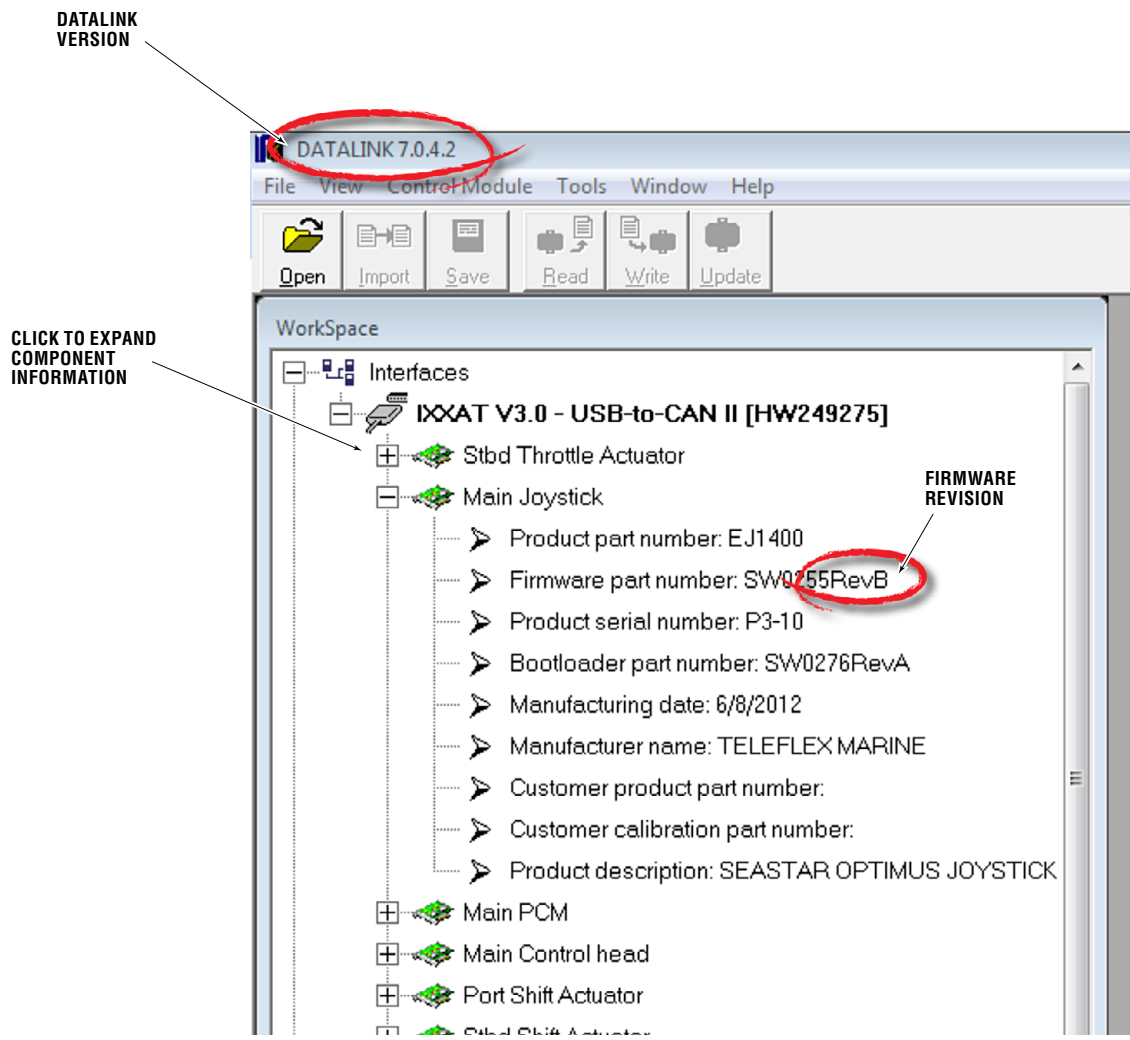

Figure D-2. Datalink workspace.
2. In the 'Interfaces' section in Datalink, click on the  box to expand the component information. See figure D-2. (In an i7700 system you will see only the Control Head(s) and Actuators in the component list.)